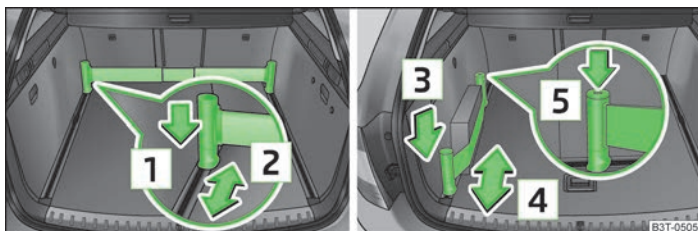

Fig. 76 Telescopic pole and tensioning strap
- Press the top part of the holder in the direction of the arrow **1** » Fig. 76 and simultaneously push in the desired position in the direction of the arrow **2**.
- Press the holder in the direction of the arrow **3** » Fig. 76 and simultaneously push in the desired position in the direction of the arrow **4**.
- The tensioning strap can also be fully reeled up by pressing the button **5** » Fig. 76.